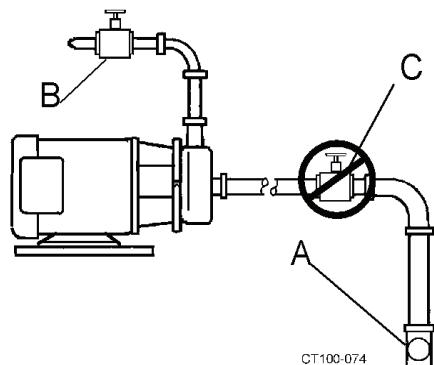

Figure 18 - Valve Piping Installation
12. This pump is not self priming. If the pump is installed above the supply liquid level, install a foot valve or other system check valve to keep the system flooded for priming. (Figure 18, item A).
13. A throttling valve may be required to control the pump flow rate to prevent motor overload. Always install a throttling valve (Figure 18, item B) in the discharge piping, at least 10 pipe diameters from the pump outlet.
CAUTION: *Never install throttling valve in the supply piping. (Figure 18, item C).*